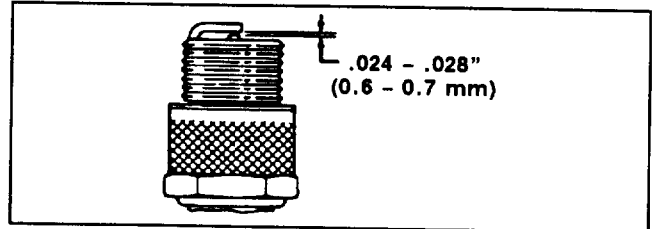

Figure 17
- Set air gap at .024 - .028" (0.6 - 0.7 mm) (Fig. 17). Install correctly gapped spark plug and gasket seal. Tighten plug firmly to 9 ft-lb (1.2 Kg-m).